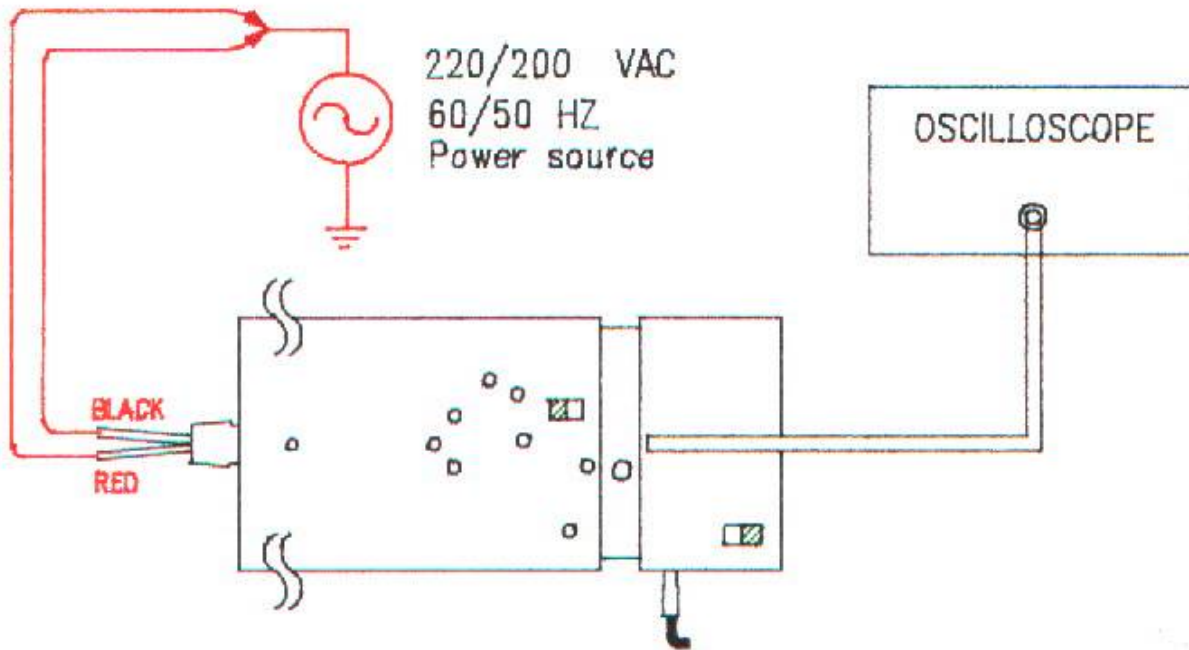

Fig. 10
- a. Referring to Fig. 10, connect output BNC to an oscilloscope has good grounding.